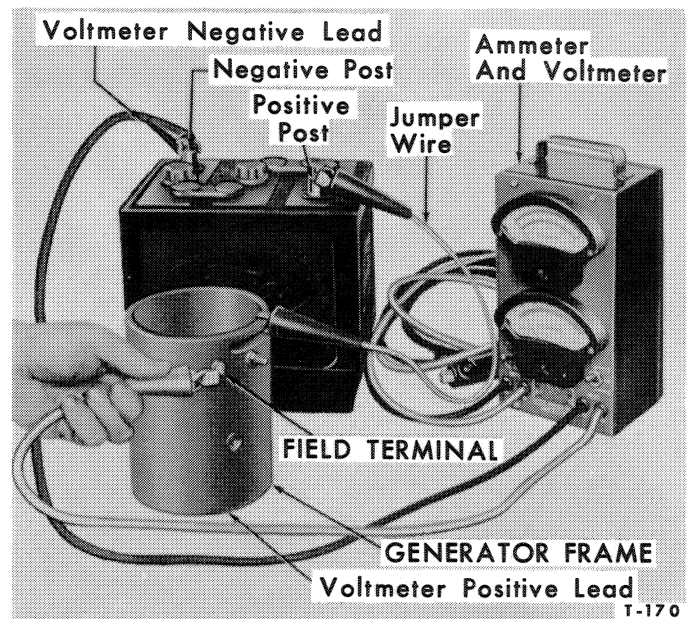

Figure 12—Checking Field Coils for Grounded Circuit
3. Check for a grounded circuit by connecting a jumper wire from the generator case to the battery positive post (negative post on 12-volt systems). Connect a voltmeter between the generator field terminal and the other battery post as shown in Figure 12. If a reading is indicated on the meter, the field coils are grounded and must be replaced.